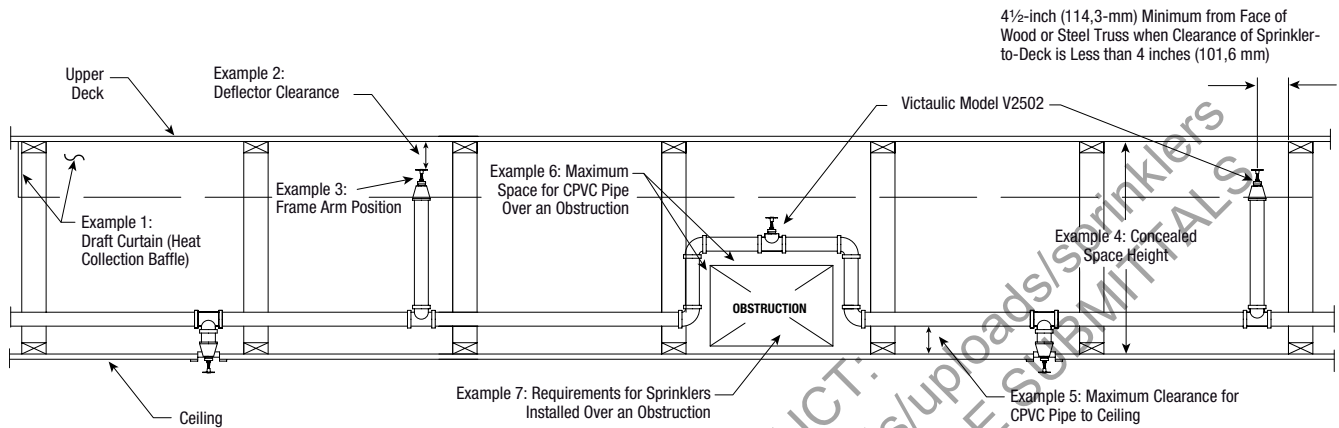
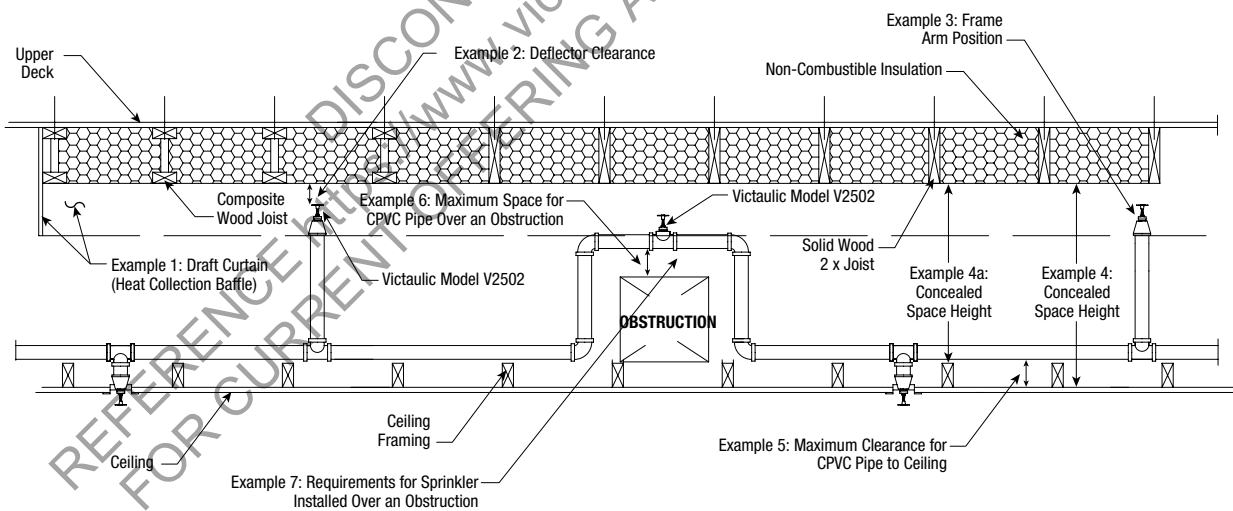

Figure 1
Figure 2
NOTE: This remote area does not include any additional sprinklers required for protection of sprinkler system products that are offset over an obstruction. For solid or composite wood construction, where the upper deck is filled with non-combustible insulation (Figure 2), the remote area must be calculated per NFPA 13 requirements for light-hazard applications with a smooth, flat ceiling.
Specifications for Engineered Wood and Steel Open Truss Construction (Figure 1)
Concealed Space Area: The area of the concealed space is not limited. However, draft curtains (heat collection baffle) or full-height walls must be provided to limit the maximum localized detection area to 1000 ft²/93.0 m². Draft curtains (heat collection baffle) or full-height walls must be at least 1/3 the depth of the concealed space or 8"/203.2 mm, whichever is greater, and must be constructed of a material that will not allow heat to escape through or above the barrier. This material may be 1/4"/6.4 mm thick plywood (refer to Figure 1, Example 1).
Deflector Position: The vertical sprinkler-deflector clearance to the bottom of the roof deck is 2" /50.8 mm minimum to 4"/101.6 mm maximum (refer to Figure 1, Example 2). The sprinkler must be installed only in the upright position. The sprinkler deflector must be installed parallel with the plane of the roof. NOTE: There is no limitation by the UL Listing in relation to frame arm positioning. However, Victaulic prefers the frame arms to be parallel with the trusses; this positioning produces a more efficient spray pattern during sprinkler operation (refer to Figure 1, Example 3).
Concealed Space Height (refer to Figure 1, Example 4):
Where the Upper Deck is Filled with Non-Combustible Insulation (Figure 2)
Concealed Space Area: The area of the concealed space is not limited. However, draft curtains (heat collection baffle) or full-height walls must be provided to limit the maximum localized detection area to 1000 ft²/93.0 m². Draft curtains (heat collection baffle) or full-height walls must drop below the joist a minimum of 6"/152.4 mm or 1/3 of the total space (whichever is smaller) and must run laterally with the joist spaced at 25 ft/8 m maximum widths. Draft curtains (heat collection baffle) or full-height walls must be constructed of a material that will not allow heat to escape through or above the barrier. This material may be 1/4"/6.4-mm thick plywood (refer to Figure 2, Example 1).
Deflector Position: The clearance from the sprinkler deflector to the bottom of the joist is 1 1/2" minimum to 2"/50.8 mm maximum (refer to Figure 2, Example 2). The sprinkler must be installed only in the upright position. When the Victaulic Model V2502 Specific Application Sprinkler is used in an installation with a pitched roof and a flat ceiling, maintain the specified clearances from the sprinkler deflector to the bottom of the upper deck joist and the maximum height of the pipe run to the ceiling in all locations. The sprinkler deflector must be installed parallel with the plane of the roof.
NOTE: There is no limitation by the UL Listing in relation to frame arm positioning. However, Victaulic prefers the frame arms to be parallel with the joists; this positioning produces a more efficient spray pattern during sprinkler operation (refer to Figure 2, Example 3).
Concealed Space Height (Figure 2, Examples 4 and 4a):
- When Victaulic Model V2502 Specific Application Sprinklers are used with sprinkler system products, the bottom of the horizontal run must be no greater than 6"/152.4 mm or 1/3 of the total space above the ceiling (whichever is smaller). The sprinkler system piping can then be used to supply the Victaulic Model V2502 Specific Application Sprinklers as well as the sprinklers below the ceiling. All instructions in the Spears FG-31010 Installation Instructions must be referenced during system installation. NOTE: If 12"/304.8 mm trusses are used in Figure 1, the bottom of the horizontal run must be no greater than 4"/101.6 mm above the ceiling. In Figure 2, if the concealed space height from the bottom of the upper deck joist to the top of the ceiling joist is the minimum 8"/203.2-mm requirement, the bottom of the horizontal run must be no greater than 4"/101.6 mm above the ceiling (refer to Figures 1 and 2, Example 5).
- When sprinkler system piping must be offset up and over an obstruction, and the bottom of the pipe will be located more than 6"/152.4 mm or 1/3 of the total space above the ceiling, additional Victaulic Model V2502 Specific Application Sprinklers must be installed to protect the CPVC product (refer to Figures 1 and 2, Example 6). The sprinkler must be installed directly over the obstruction (refer to Figures 1 and 2, Example 7).